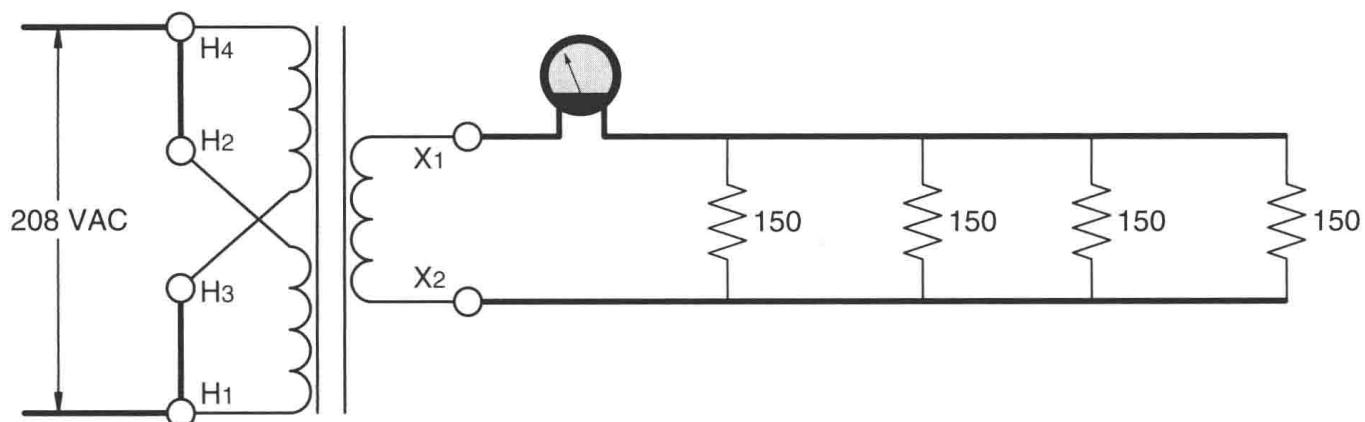

Figure 20-4 Adding load to the transformer secondary.
13. **Turn off the power supply** and reconnect the AC ammeter in the secondary circuit and add two more 150-ohm resistors in parallel with the transformer secondary (Figure 20-4).